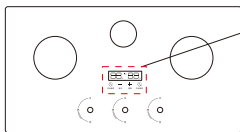

Figure 9
5. The dotted line frame is the launch window of the stove linkage, which cannot be blocked, otherwise it will affect the linkage function of the stove (see Figure 9).